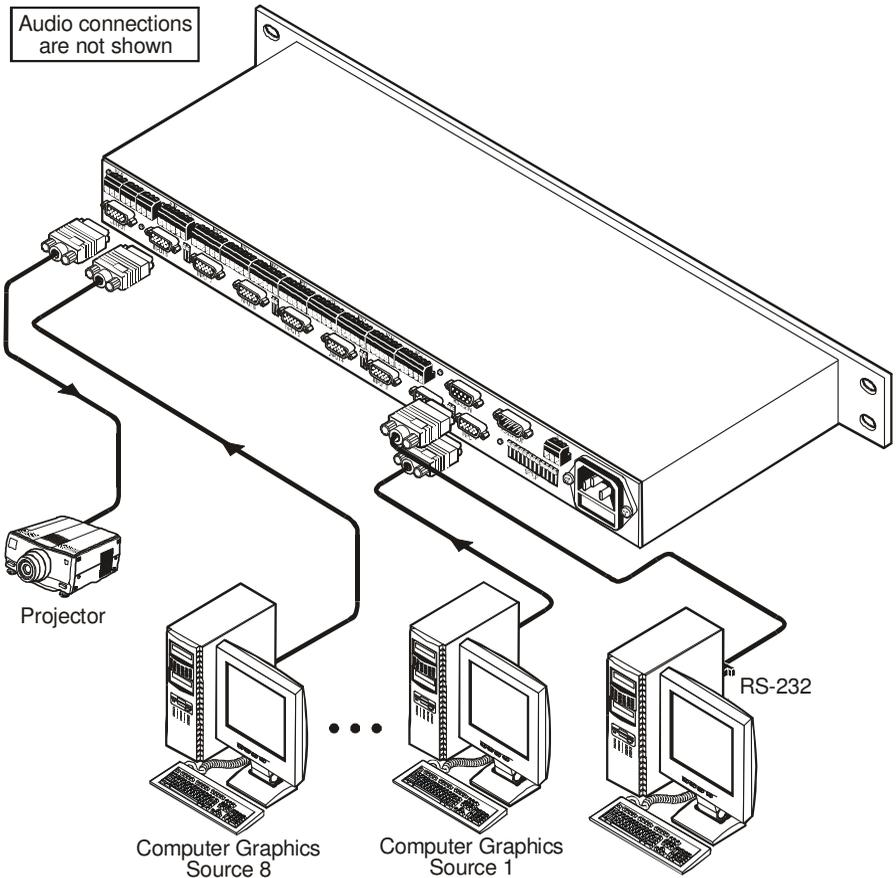

Figure 4: Connecting the VP-81xl
To connect the **VP-81xl**¹, unit, as illustrated in Figure 4, do the following²:
2. Connect the balanced audio sources (see section 6.1) to up to eight INPUT terminal block connectors (not shown in Figure 4)
4. Connect the balanced audio terminal block connector (see section 6.1) to an acceptor (not shown in Figure 4).